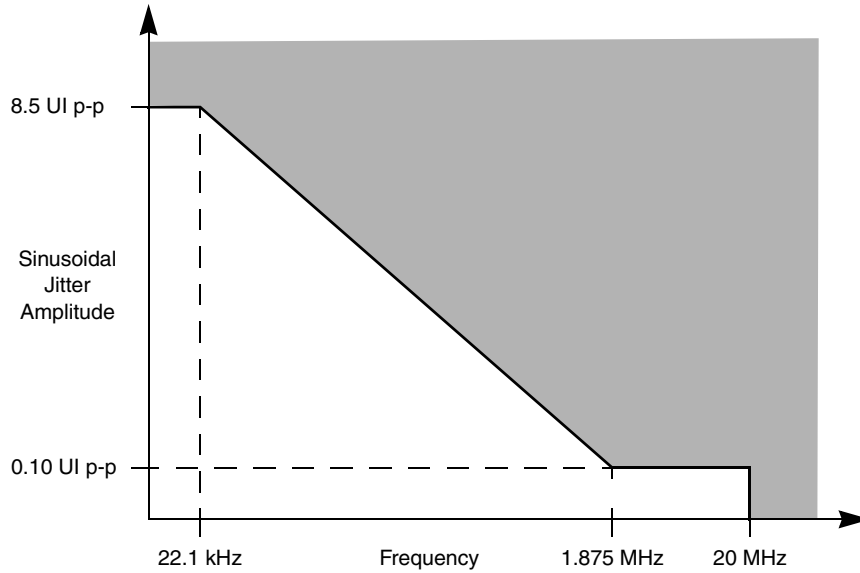

Figure 18. Single Frequency Sinusoidal Jitter Limits
Notes: <ol style="list-style-type: none"> 1. Measured at receiver. 2. Total jitter is composed of three components, deterministic jitter, random jitter, and single frequency sinusoidal jitter. The sinusoidal jitter may have any amplitude and frequency in the unshaded region of Figure 18. The sinusoidal jitter component is included to ensure margin for low frequency jitter, wander, noise, crosstalk, and other variable system effects.
1. See Figure 18 for single frequency sinusoidal jitter limits
2. Refer to RapidIO™ 1x/4x LP Serial Physical Layer Specification for interpretation of jitter specifications. Also see Figure 18.